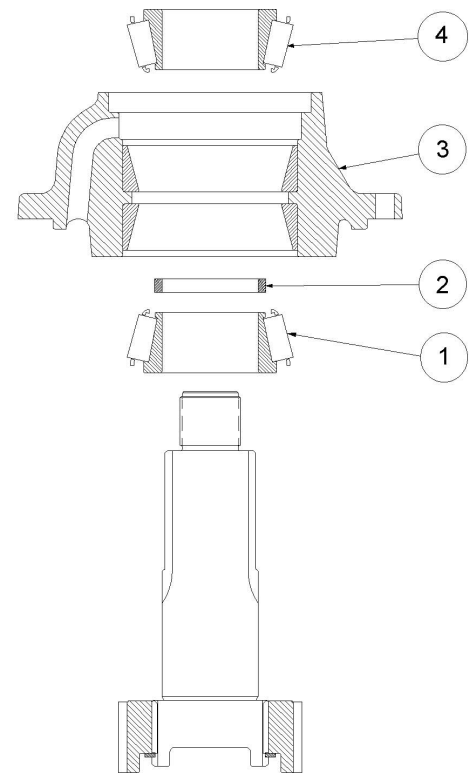

Fig. 46
3. Install a heated bearing (1), bearing spacer (2), front output carrier (3), and heated outer bearing (4) in the order shown in figure 46.